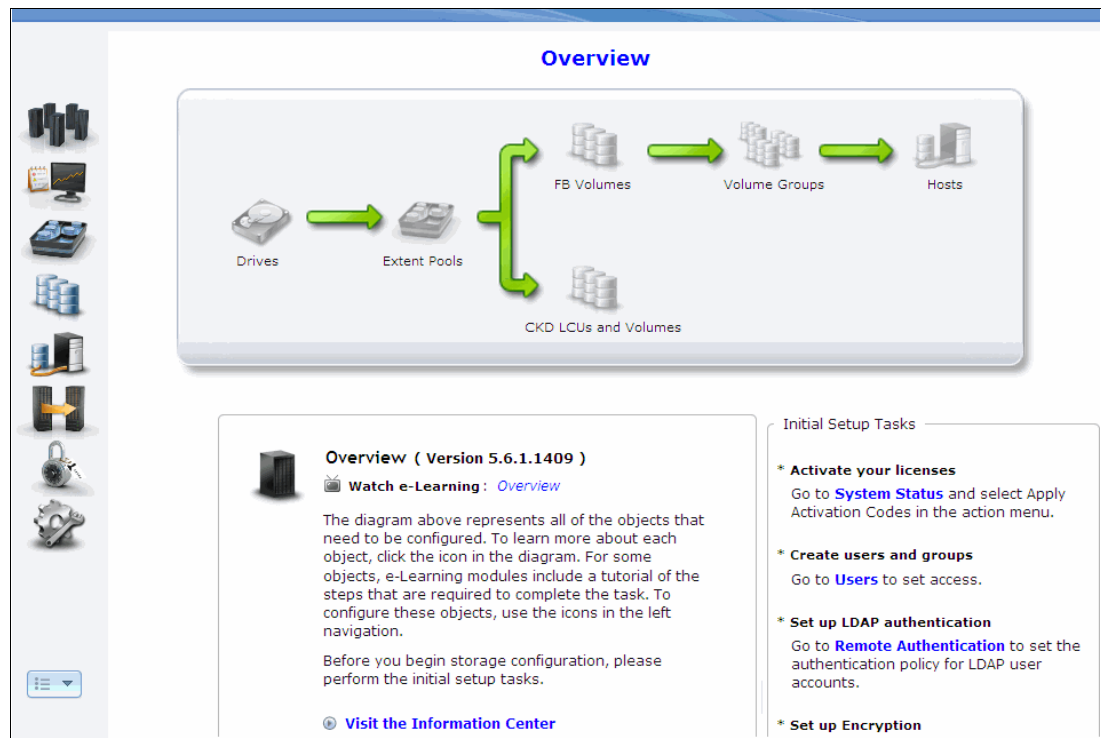

Figure 12-24 SSPC: DS8000 6.1 GUI Overview window
- The DS8000 GUI Overview window for the selected disk system displays. Figure 12-24 shows the latest DS8000 6.1 GUI.